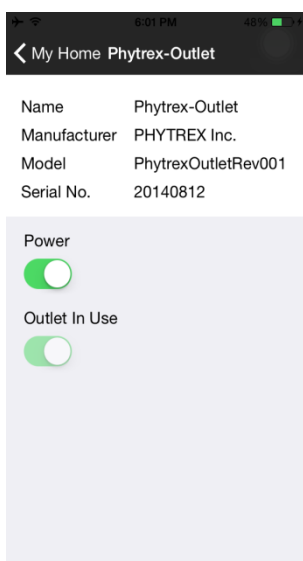

Figure 38: Outlet Switch "On" Screenshot from Homekit Apps
- Step 11: Select the "Outlet In Use" Characteristic from the left side on HAT (Figure 38)